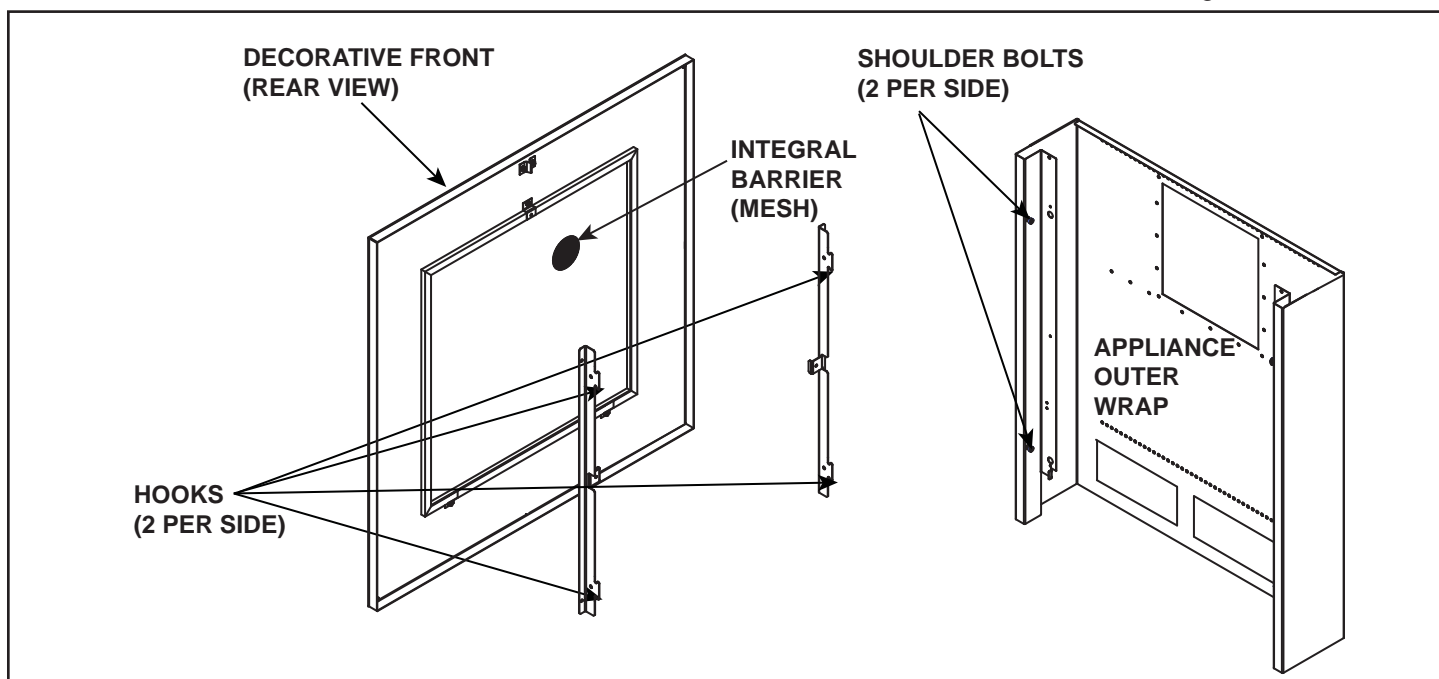

Figure 1. Hook and Shoulder Bolt Locations
2. Install shoulder bolts securely into the threaded holes on the appliance outer wrap in four locations. See Figure 1.
6. Install the decorative front on the appliance by matching the four hooks on the decorative front with the four shoulder bolts on the appliance. See Figure 1.